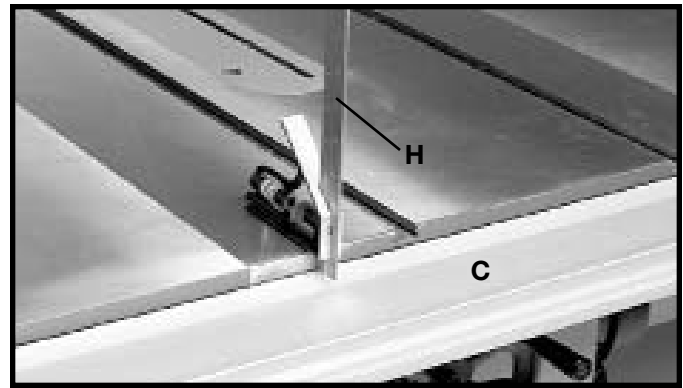

Fig. 23
7. Adjust the guide rail (C) Fig. 23, parallel with the saw table surface by placing a square (H) on the saw table at both the left and right front ends of the table, with the rule of the square against the flat surface on top of the guide rail. The guide rail (C) Fig. 23, can be adjusted up or down at either end. After you are certain the guide rail is parallel with the table surface, firmly tighten the two hex nuts that fasten the guide rail to the table.